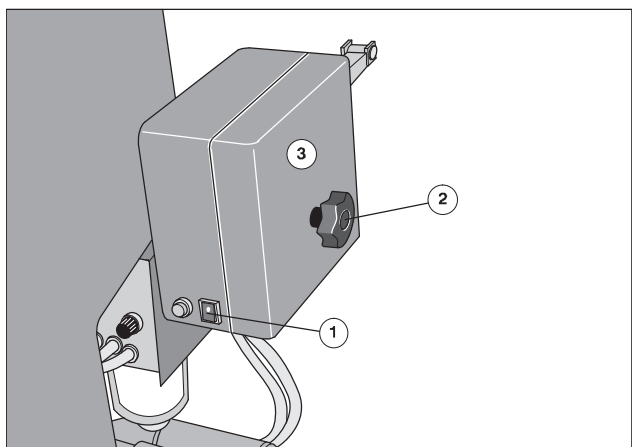

Fig. 36 Opening the tape inserter
1. Switch off the tape inserter at the mains switch (Fig. 36/1).
2. Loosen the star knob (Fig. 36/2) and remove the cover (Fig. 36/3).
7. Retighten the cover (Fig. 36/3) to the device with the star knob (Fig. 36/2).